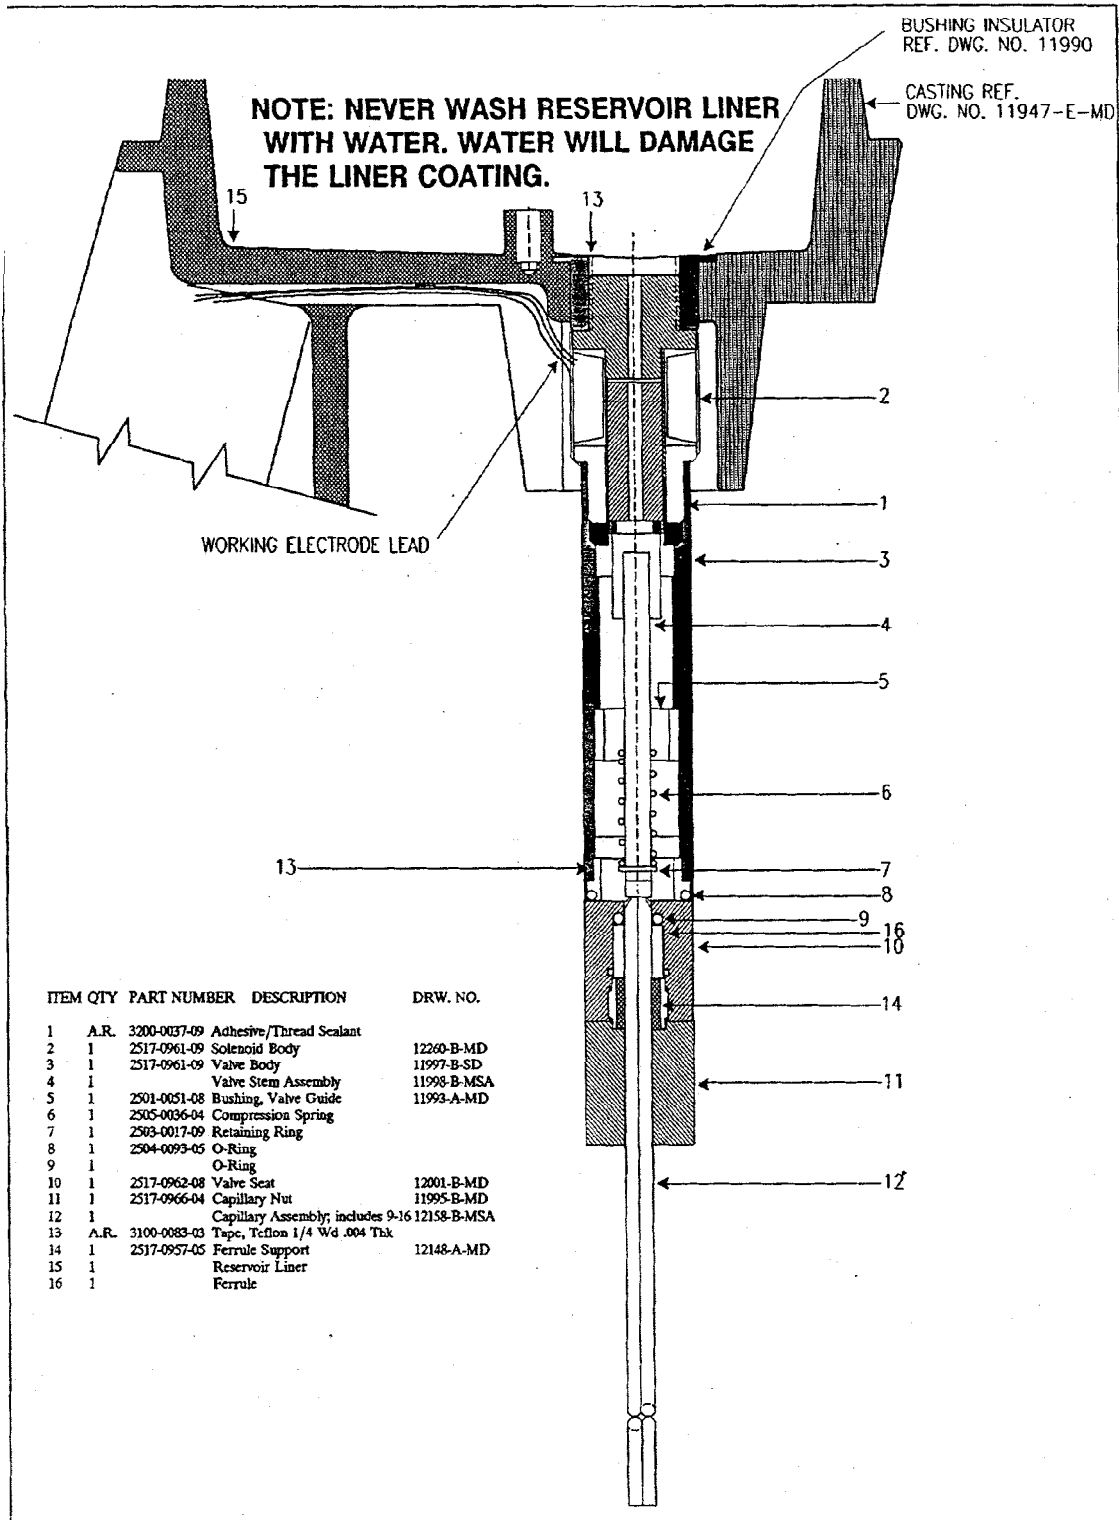

Figure 4-1, Model 303A SMDE Mechanical Assembly
The Model 303A base, stand, and mercury reservoir are all part of a single massive casting that provides great stability and mechanical integrity. The mercury valve assembly projects downwards from the reservoir as illustrated in Figure 4-1. The heart of this assembly is the solenoid body (item 2) which is threaded into a bushing in the floor of the reservoir. Mercury flows through a vertical hole in the upper section of the solenoid body, and then down around the plunger in the valve stem assembly (item 4) to where it has access to the top of the capillary if the solenoid is energized. In operation, the solenoid is energized only long enough to dispense a drop, except to DME operation. The duration of the inter-dispense intervals determines whether the electrode functions as an SMDE or HMDE. The long stainless steel sleeve of the valve body (item 3) channels the mercury and supports the plunger guide (5). A compression spring (6) continuously applies a downwards force on a retaining ring (7), so that the polyurethane tip at the end of the plunger seals the capillary opening. When the solenoid is energized, the solenoid plunger is raised, working against the spring, breaking the seal between the polyurethane cap and the capillary, and allowing mercury to flow down the capillary. Note that the valve seat (10) threads into the valve sleeve, and that the capillary nut threads into the valve seat, squeezing the capillary O-ring (9) and securing the capillary. The metallic parts that contact the mercury are made of stainless steel to prevent contamination of the mercury by metal dissolved in it. The materials used in the non-metallic parts have been selected on the basis of their being insoluble in mercury and non-reactive to it.
The valve body assembly consists of four discrete components: the valve body, plunger, valve seat, and capillary nut (see Figure 4-1). The valve body is secured to the reservoir via a threaded hole and is not removed during normal service. Do not adjust the four hex screws located in the underside of the reservoir; these are factory-set adjustments for proper positioning of the valve body, and they should not be removed.